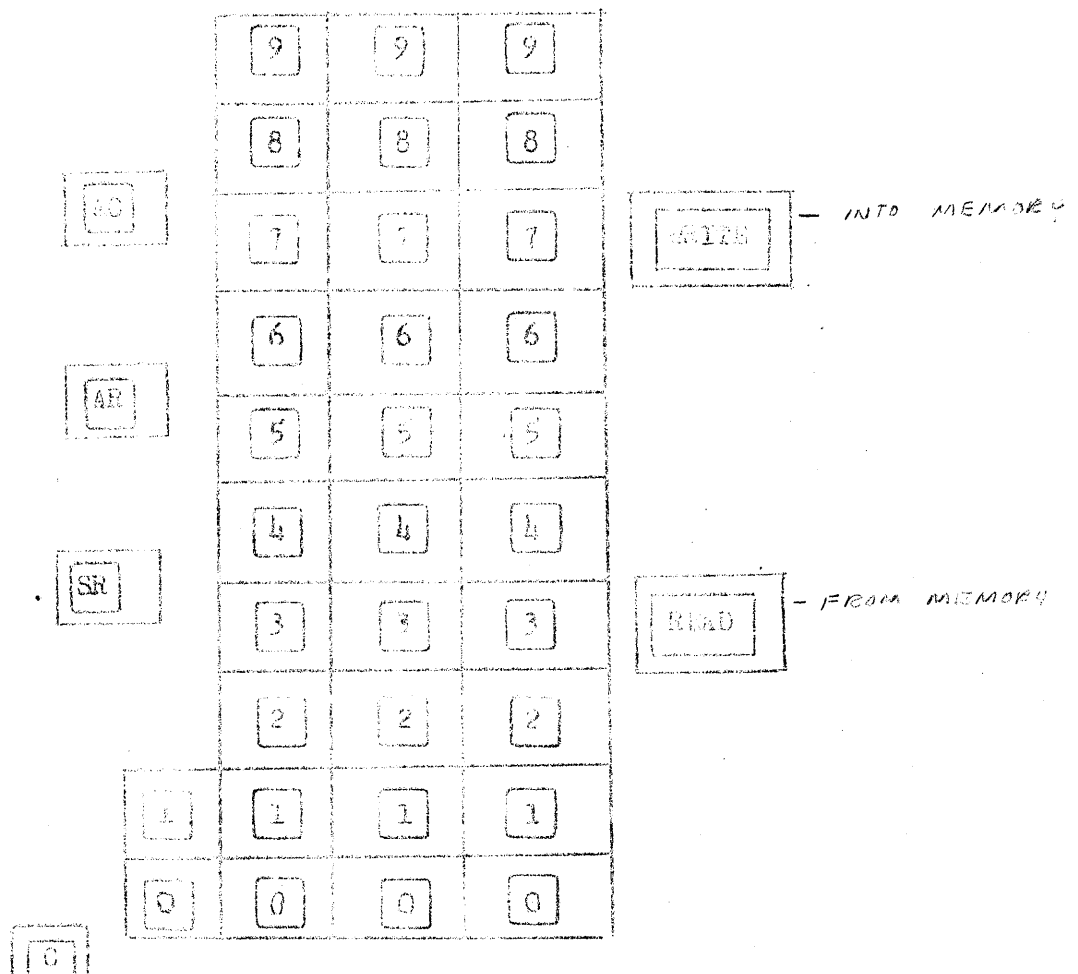

Figure 17
9. Manual Register Selector - The Manual Register Selector (see Figure 17) is a special keyboard by which machine registers or memory locations may be specified for manual print out or data insertion.